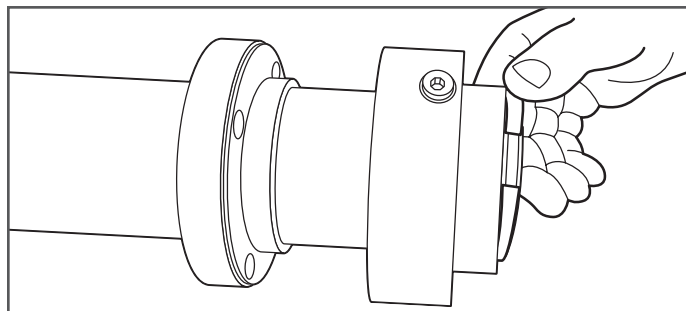

Figure 8-6
6. With the split rings exposed, remove split rings from DoubleTrac® fitting (Figure 8-6).